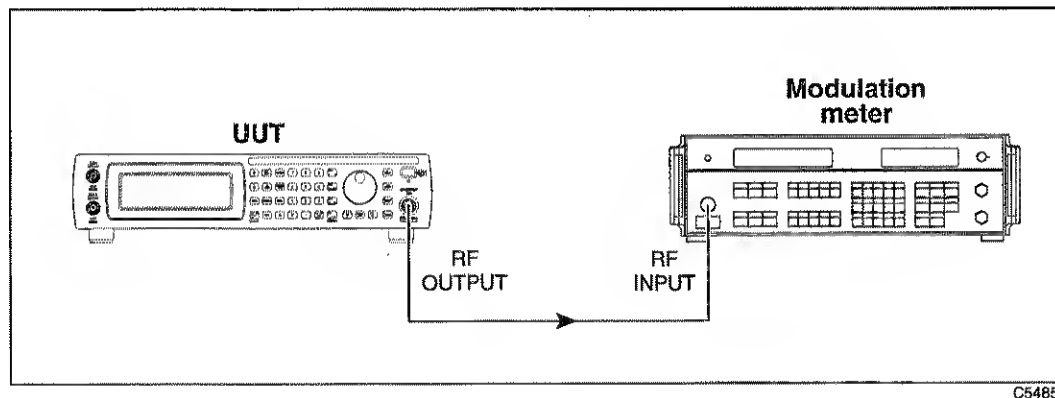

Fig. 6-3 Analog modulation test setup
- 1 Connect the test equipment as shown in Fig. 6-3.